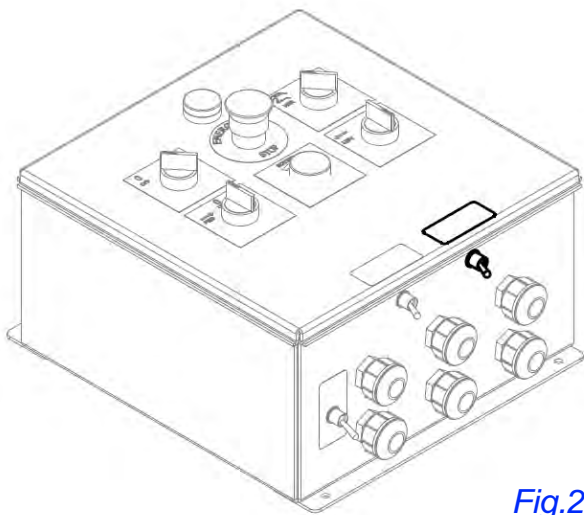

Fig.2
5. Install provided toggle switch in the control panel. Blue wire should be towards left side of control panel. See Fig.2.